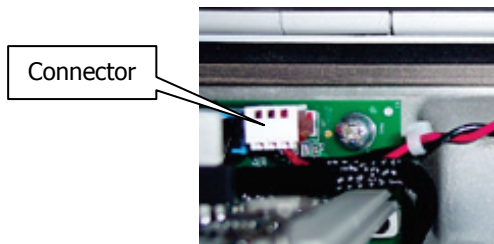

Figure 53 Laser board connector
3. Disconnect the thin black and red cables from the board connector which is located under the rear of the laser assembly (Figure 53).